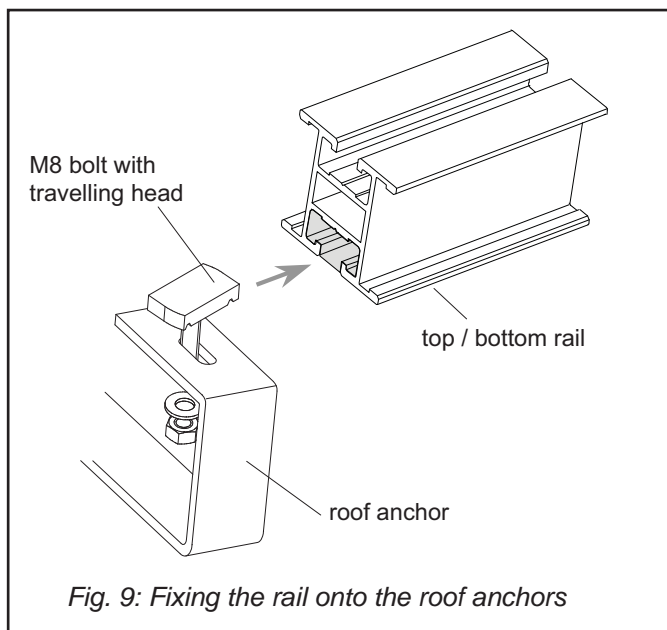

Fig. 9: Fixing the rail onto the roof anchors
- Then mount the U-shaped bracket (Fig. 9) on the bolt, between two nuts with a serrated washer.
- Align the travelling screw head (Fig. 9) with the horizontal rail and shift the rail onto it, or shift the screws into the rail first and fix to the anchors. Use serrated lock washers to fix the nuts.